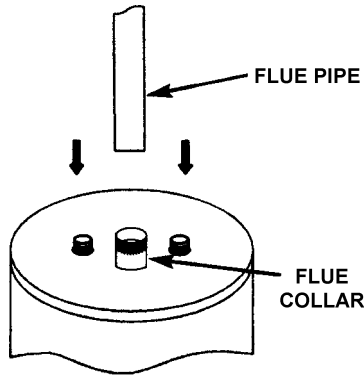

FIGURE 17.
7. Extend the flue pipe down close to the water heater flue collar, see Figure 17.